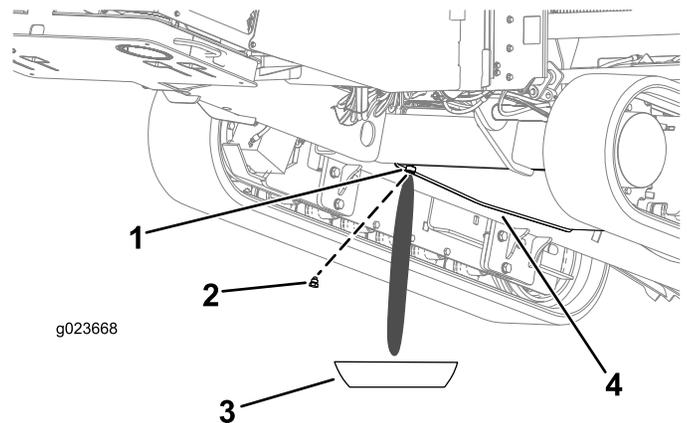

Figure 94
3. Loosen the drain plug until the water and sediment drain out (Figure 94).